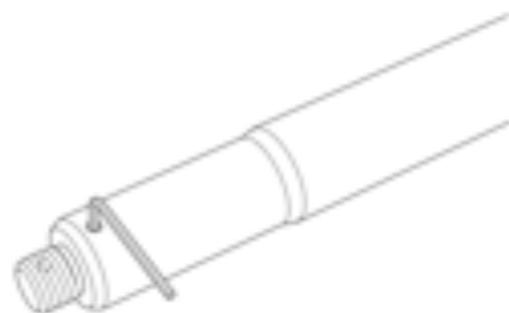

Figure 30: Using Hex Wrench to Loosen M20 Slug Set Screws
2. Loosen the set screws using a 2.5 mm hex wrench. Do not loosen so far that the screws fall out of the pole and are lost (Figure 30).